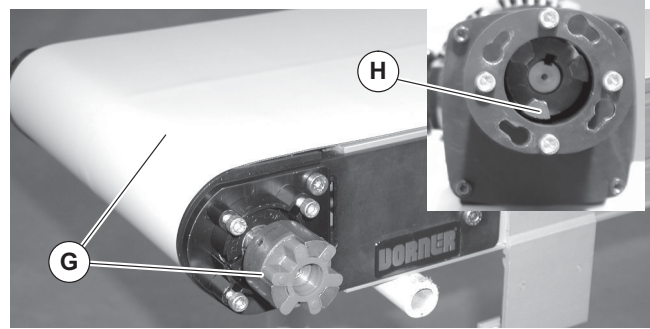

Figure 4
3. Rotate conveyor belt and attached conveyor coupling (Figure 4, item G) to align with gearmotor coupling (H).